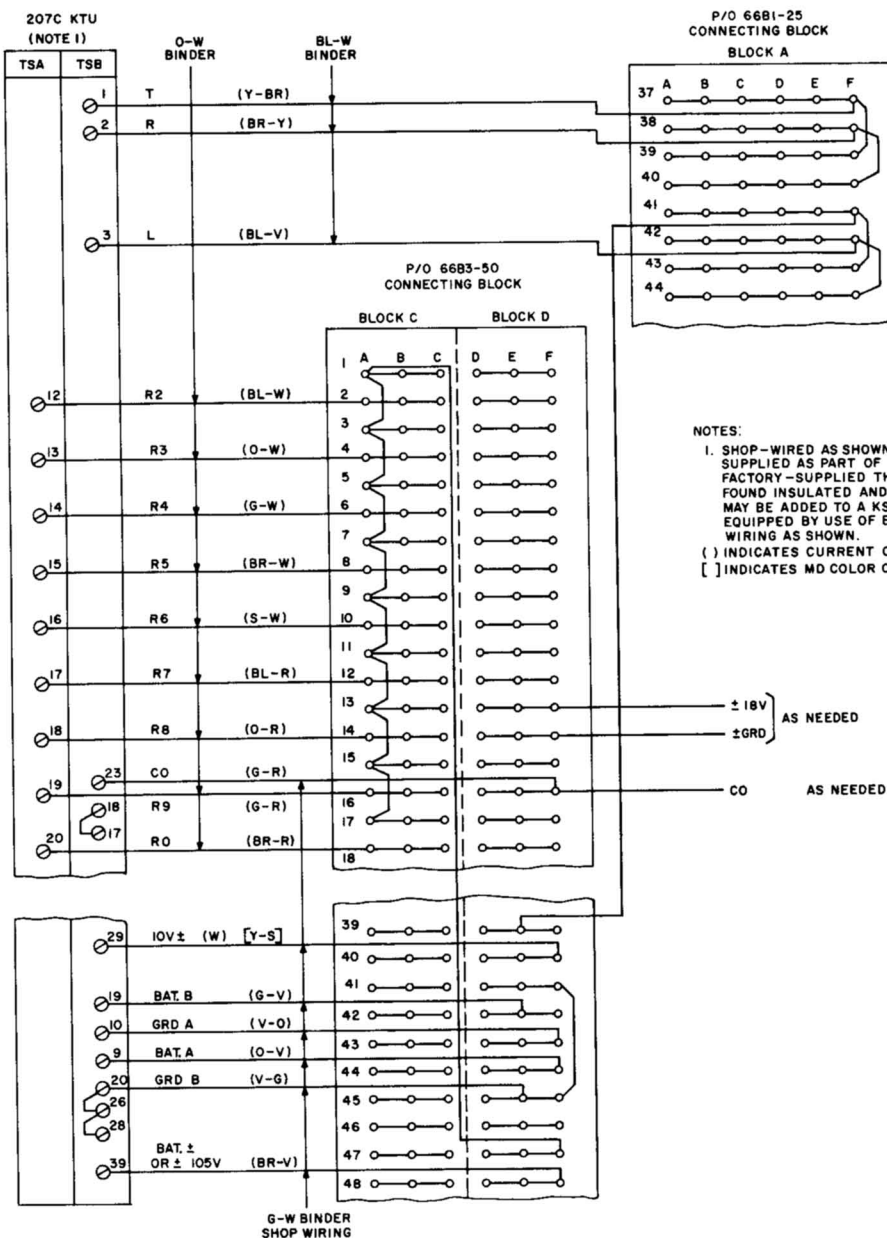

Fig. 5—Connections for Dial Intercom Circuit, 207C KTU
4.06 Addition of a 207C KTU can be accomplished by using previously placed factory wiring and connecting as shown in Fig. 5.